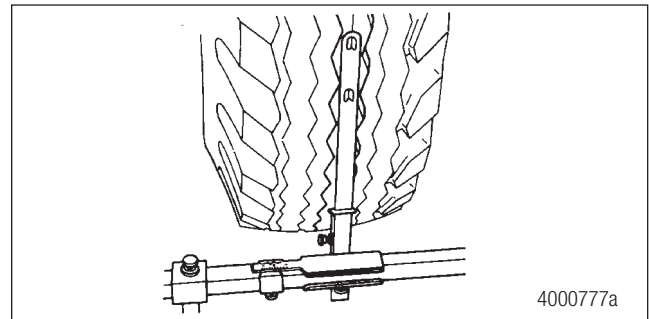

Figure 15.4
6. Place the trammel bar at the rear of the tires. Adjust the pointer to line up with the scribe lines on the tires. Lock the pointers in place. The sliding scale still must be set on ZERO. Figure 15.4.